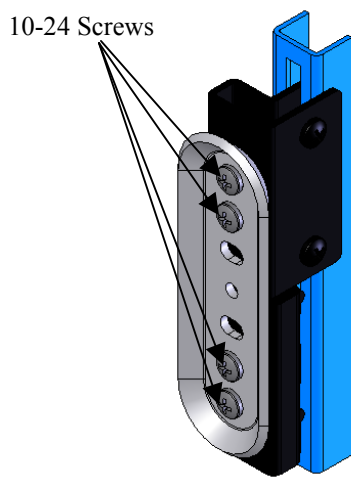

Figure 4
3. Secure the mounting bracket to the upper adapter bracket using two 10-24 pan head screws (see Figure 4).